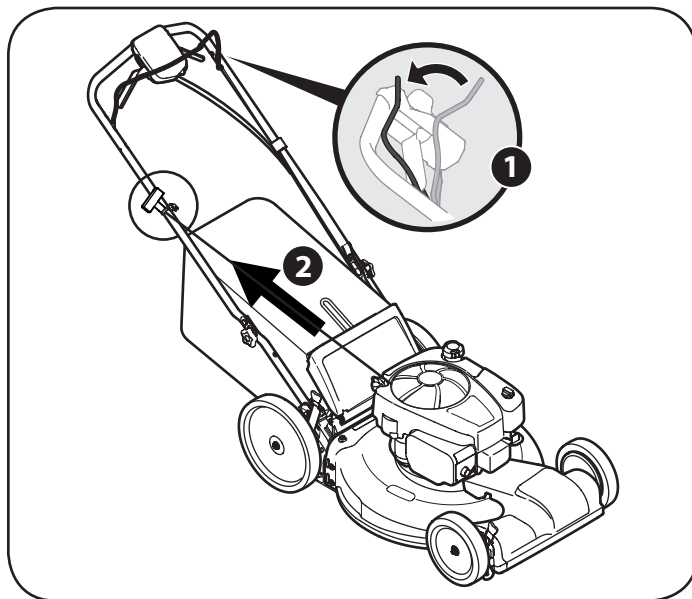

Figure 14
2. While holding these two handles together firmly, grasp the recoil starter handle and pull rope out with a rapid, continuous, full arm stroke. See Figure 14. Keeping a firm grip on the starter handle, let the rope rewind slowly. Repeat until engine cranks. Let the rope rewind each time slowly.